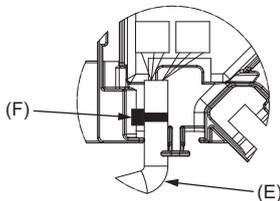

Fig. 6-11
- Place the band securing the panel vane motor wire in the connector box as shown in the diagram. (Fig. 6-11)